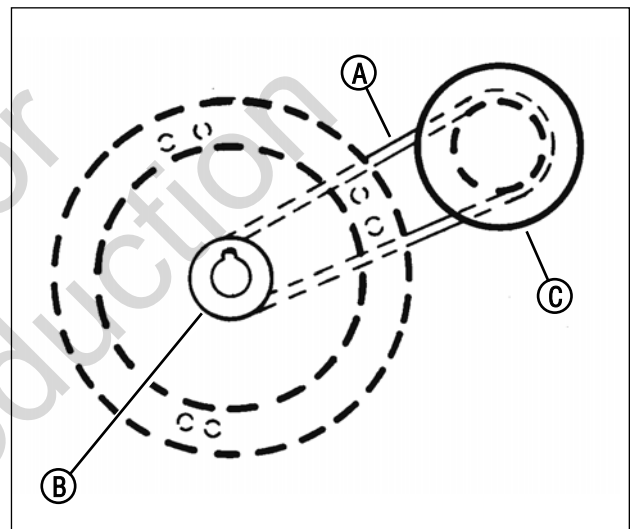

Figure 33: Engine drive belt routing
On self-propelled mowers, the engine belt (**A**, Figure 33) transmits power from the engine pulley (**B**) to the drive disc (**C**). The drive disc powers the poly-v belt, which engages the transmission that powers the rear wheels. Should these belts become worn, they could cause slippage, which would impair mower performance. The condition of the engine belt and poly-v belt should be checked after every 25 hours of mower operation.
2. Note the belt routing (Figure 33). There is no idler pulley on these models to disconnect.